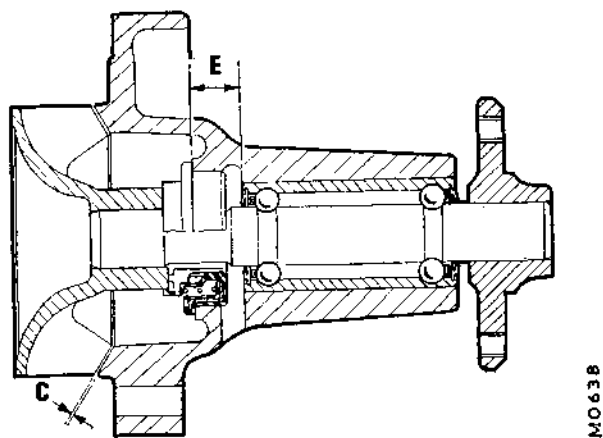

Fig. C.5
10. Press the spindle bearing assembly into the pump body and take measurement C, Fig. C.5; adjust the